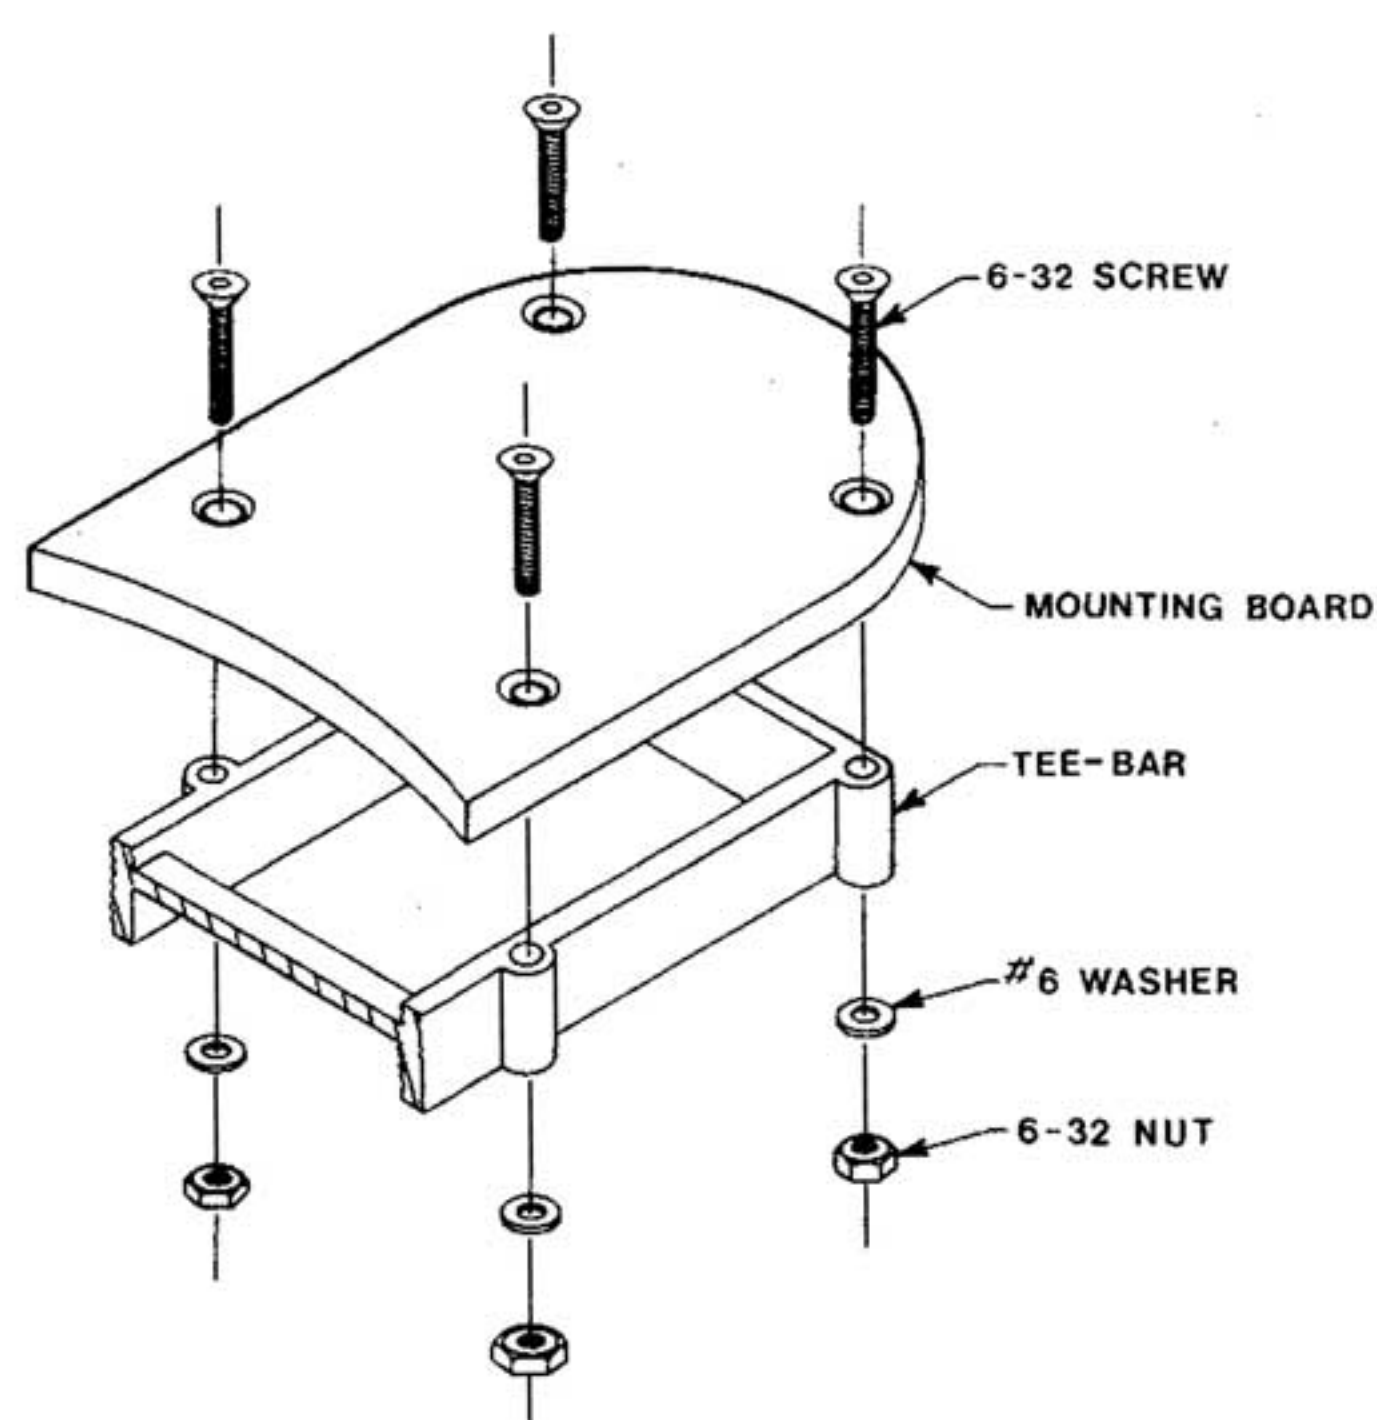
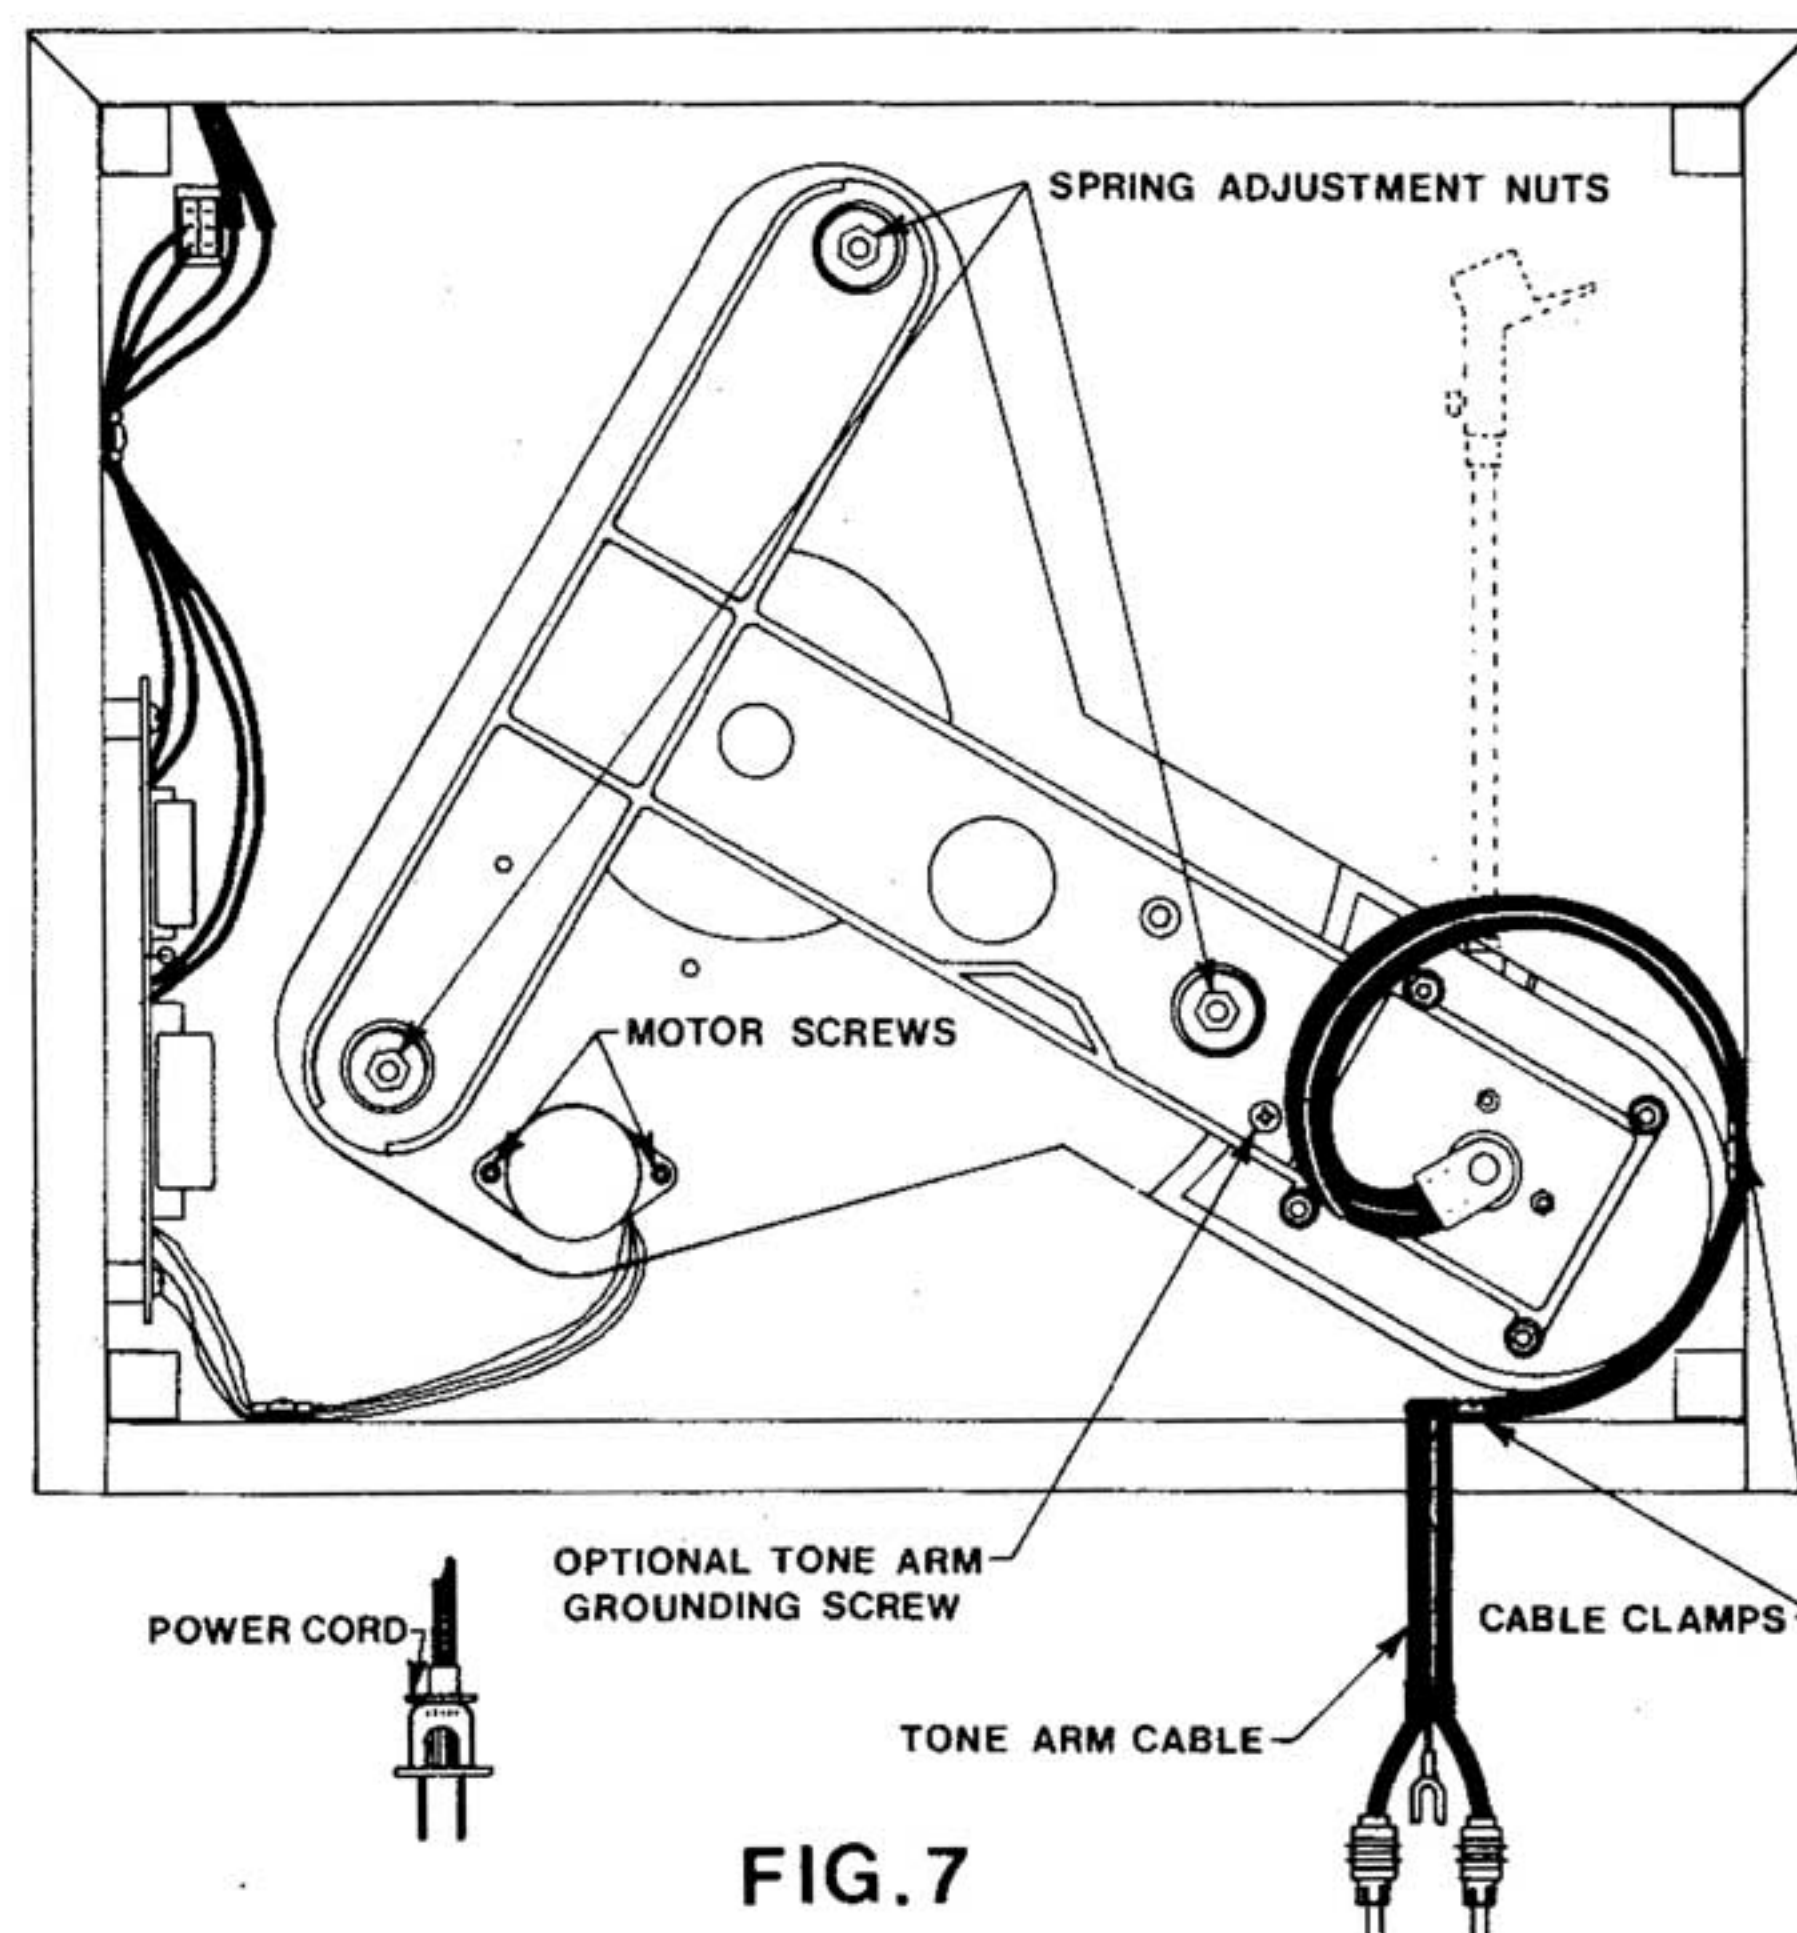
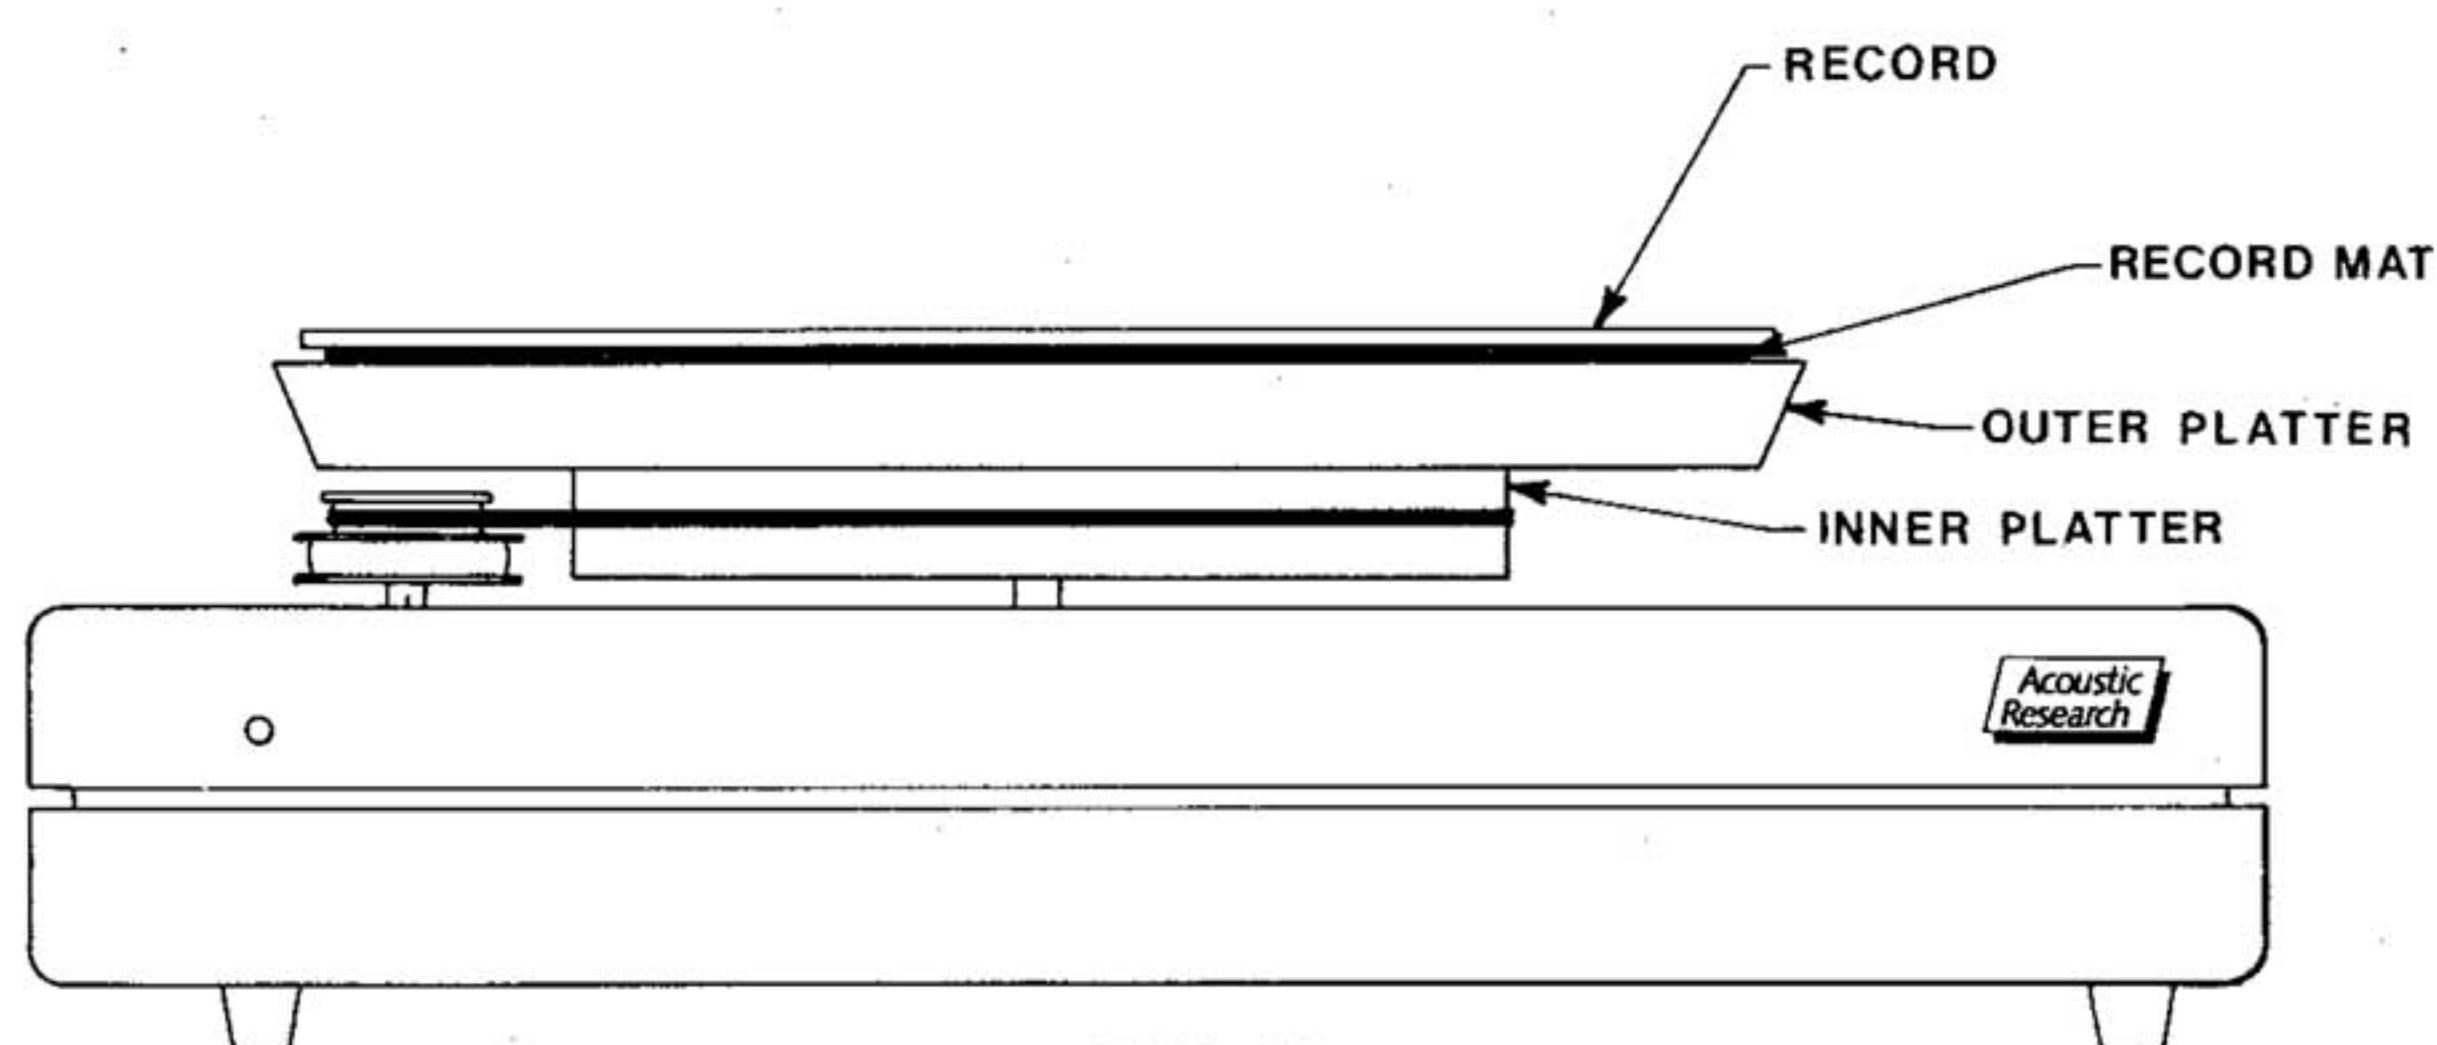
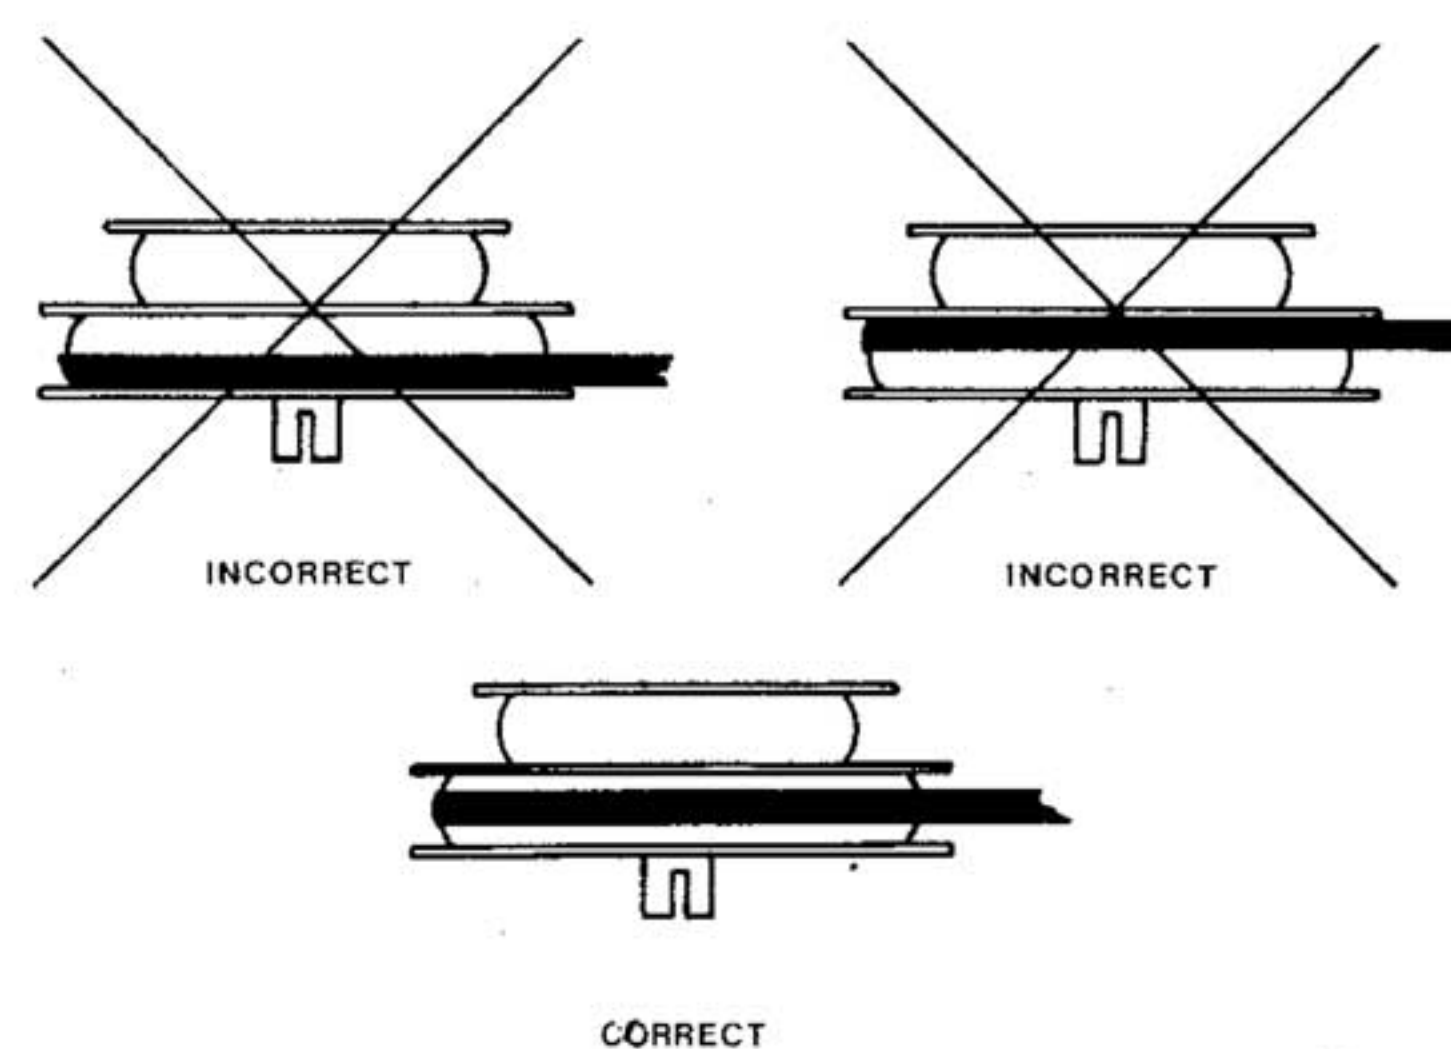

FIG. 6
FIG. 7
FIG. 8
FIG. 9
- (1) Make sure that the line cord is NOT CONNECTED to the wall socket and then remove the bottom cover to the base. The cover is held on by the four feet which can be removed by undoing the four phillips-head screws in the feet. Hold the turntable upright on one end to do this and at the same time hold the inner platter in position as this should not be allowed to slide out of the bearing.
- (2) Support the turntable base 6 to 12 inches above a table or similar surface such that access is given to the inside. This can be achieved with books under each end, ensuring that the base is firmly seated and that the upper surface of the base is perfectly level. Use a spirit level (not supplied) to ensure a level surface.
- (3) Using the instructions and/or template(s) supplied with your tonearm mark all the holes that will be needed on the tonearm mounting board and then remove the board. The board is held in place by four allen screws which pass through the tee bar and are held with four nuts and washers (fig 6). The $\frac{5}{64}$ inch allen wrench supplied in the accessories fits the screws.
- (4) Drill and/or cut the board as required.
- (5) The tonearm may now be mounted on the board and the board replaced, ensuring that the four allen screws are tightened securely. Set up the tonearm following the manufacturer's instructions.
- (6) The tonearm cables can now be installed. The cable(s) are held by the two clamps and screws provided in the accessories which should be screwed into the interior side or underside of the base. The cable should be positioned with as much free cable as possible between the tonearm base and the clamps to allow free movement of the suspended tee-bar. This free cable should not touch any part of the tee-bar, base, or bottom cover. One way of achieving this is shown in fig 7, although different tonearms and cables will require different layouts to achieve the free movement and a degree of experimentation is necessary. It may be found that your tonearm has a very deep base that would make the cable touch the bottom cover. This can be overcome by cutting a clearance hole in that cover to allow the cable loop to fall below the cover level (the feet give an extra clearance of about $\frac{1}{2}$ inch if this is done).
- (7) Next the turntable itself should be made operational as covered in section (B).
- (8) The suspension should now be adjusted. Ensure that the drive belt, outer platter, turntable mat and a record are in place for this step. The (tee-bar — platter — tonearm) subsystem is levelled using the three nuts under the springs on the underside of the deck (fig 7). These should be turned until the outer platter is sitting with its outer edge approximately $\frac{1}{4}$ inch above the top surface of the base. The precise dimension is not important but it is critical that it be absolutely constant all around the perimeter of the platter as this ensures that the playing surface is level.
- (9) Check the horizontal positioning of the tee-bar assembly. This should be positioned such that the tonearm board has an even gap around it and such that the pulley itself is not positioned too close to either the inner platter or to the underside of the outer platter. **THIS PULLEY CLEARANCE IS EXTREMELY IMPORTANT IF YOUR TURNTABLE IS BEING USED WITH A 50Hz SUPPLY AS THE 50Hz PULLEY IS RELATIVELY LARGE.** If the positioning is not correct, it can be adjusted by rotating one or more springs whilst keeping the nuts from turning with them.
- (10) Remove the record, mat, and outer platter and replace the bottom cover and feet.
- (11) Place the outer platter UPSIDE-DOWN on the inner platter and put the mat and record on top of it. The drive belt and pulley is now visible (fig 8). Connect the line cord to the outlet and switch on the turntable. The drive belt should run on the crown of the pulley and not rub against either flange (fig 9). If this is not so, unplug the line cord, remove the bottom cover again and shim the motor to correct matters. The motor may be loosened by the two screws shown in fig 7 and then shimmed with piece(s) of paper before retightening the screws. If the belt rubbed the bottom of the pulley, then the side away from the platter will need shimming and vice-versa. **IN ORDER TO AVOID THE POSSIBILITY OF ELECTRIC SHOCK, REMEMBER TO ALWAYS MAKE SUCH ADJUSTMENTS WITH THE POWER CORD DISCONNECTED AND DO NOT RE-CONNECT IT UNTIL THE BOTTOM COVER HAS BEEN REPLACED.**